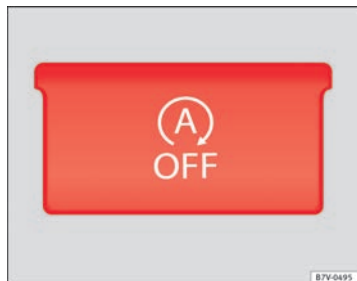

Fig. 140 Detailed view of the centre console: Start-Stop function button.
- Press the  button on the centre console → fig. 140.